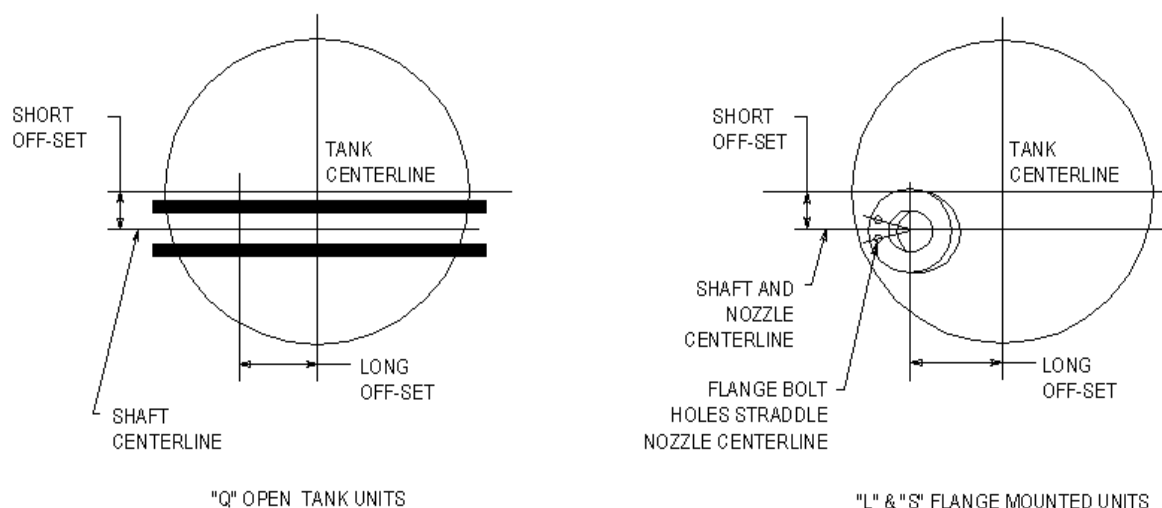

FIGURE 5
2.6 Mixer Positioning Data for fixed mounted "Q", "L", & "S" Units on unbaffled tanks. Refer to Figure 5 and Table 1.